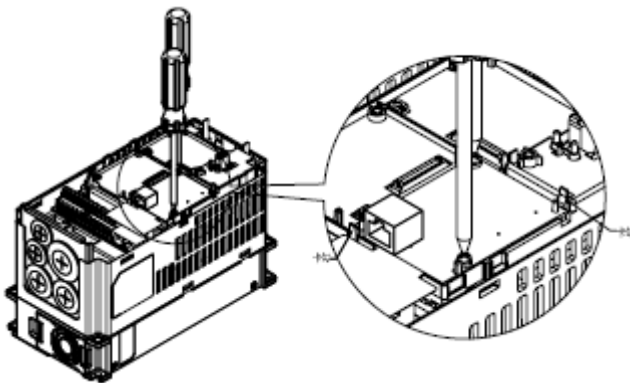

Figure 3.2-1
1. Remove the two screws (see Figure 3.2-1).